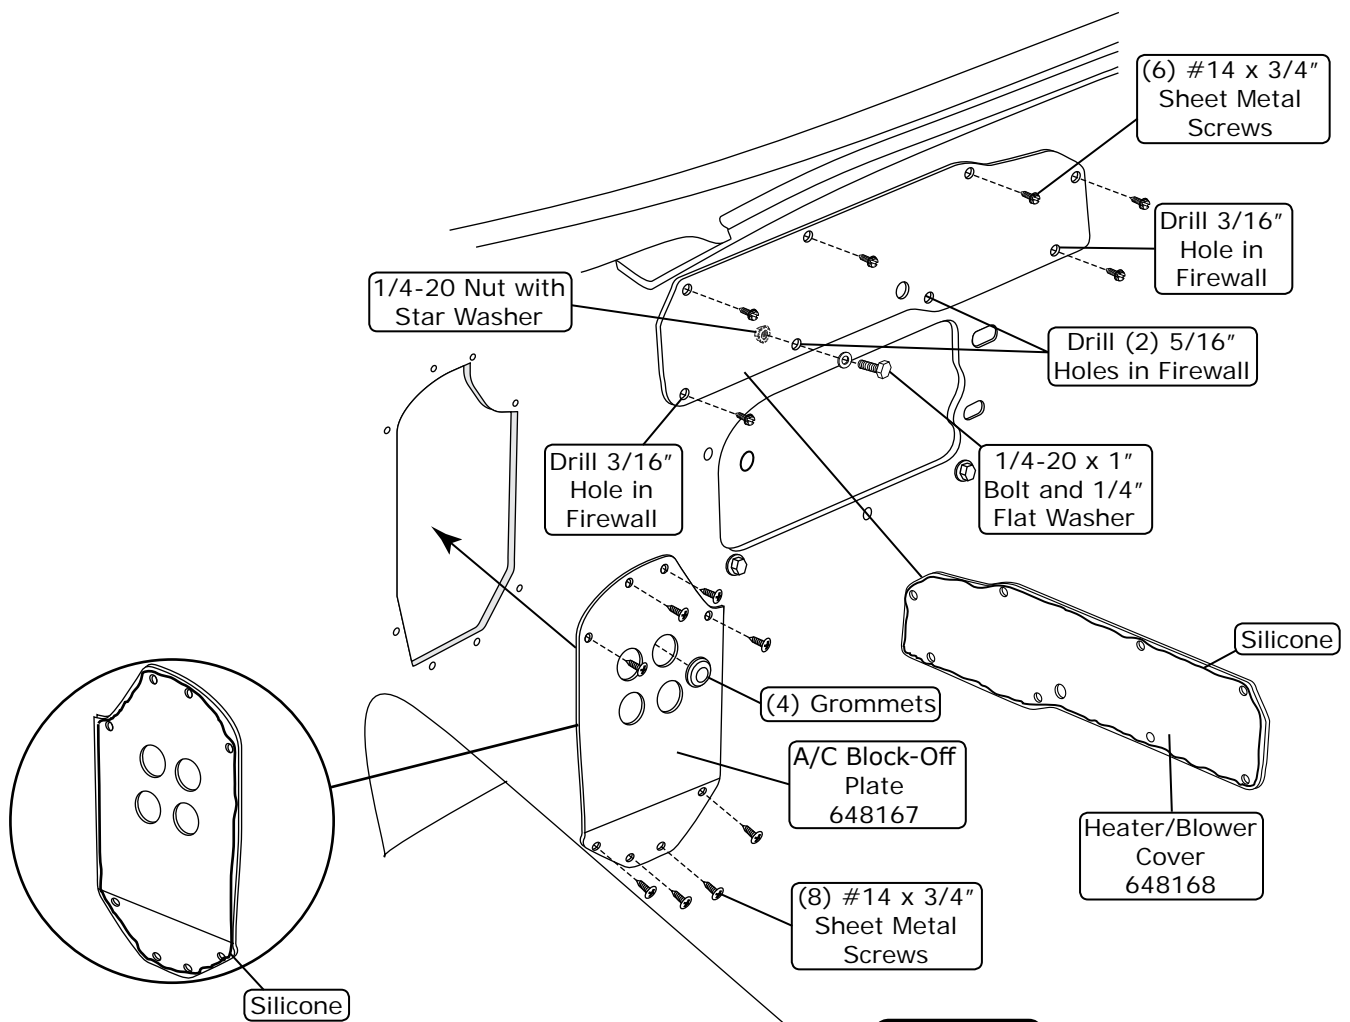

Figure 10a
2. Apply a 1/4" bead of silicone around the mating surface of the A/C block-off plate as shown in Figure 10a, below.